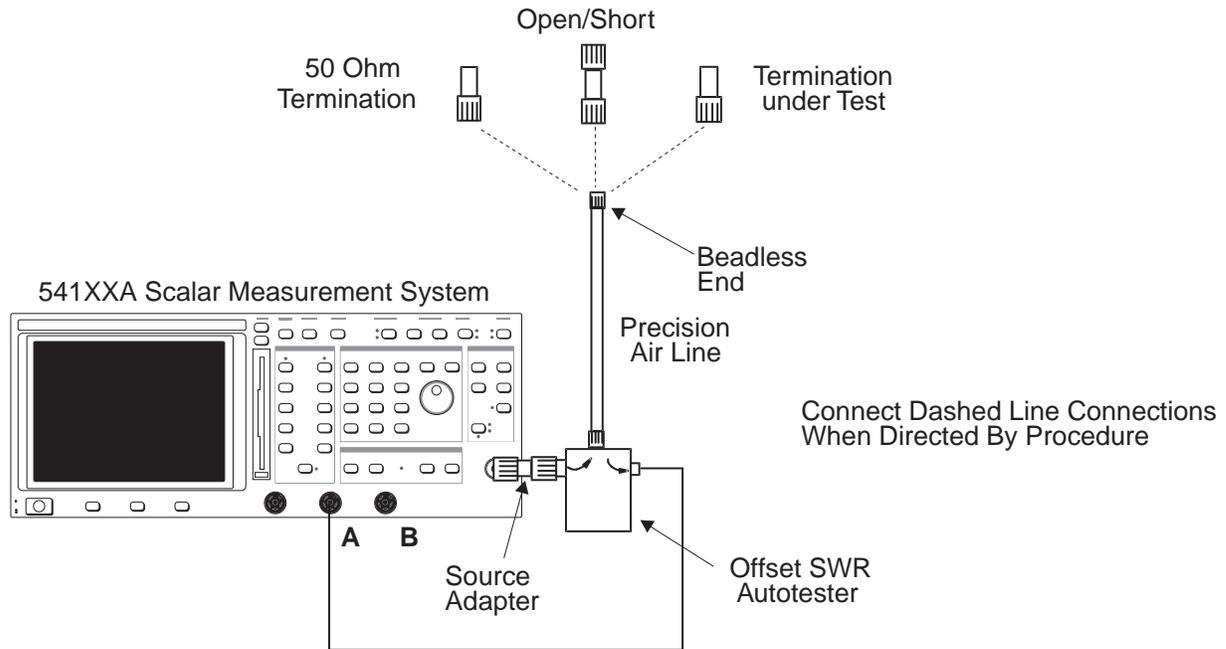

Figure 3. 541XXA Precision Return Loss Setup
1. Connect the test equipment as shown in Figure 3, page 7.